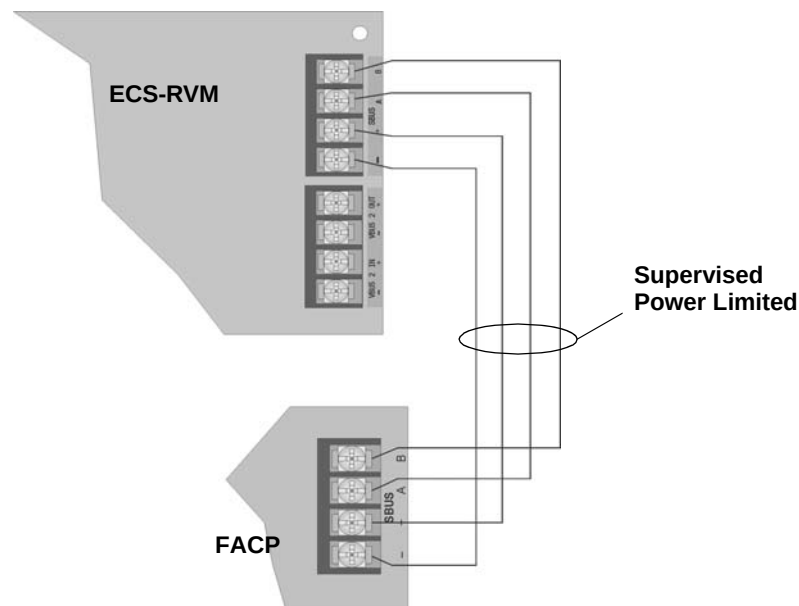

Figure 4-79 SBUS Connections
1. Refer to Figure 4-79 to properly connect the ECS-RVM to the FACPs SBUS.
2. Disconnect the SBUS connections from the SBUS terminals on the ECS-RVM. See Figure 4-79.